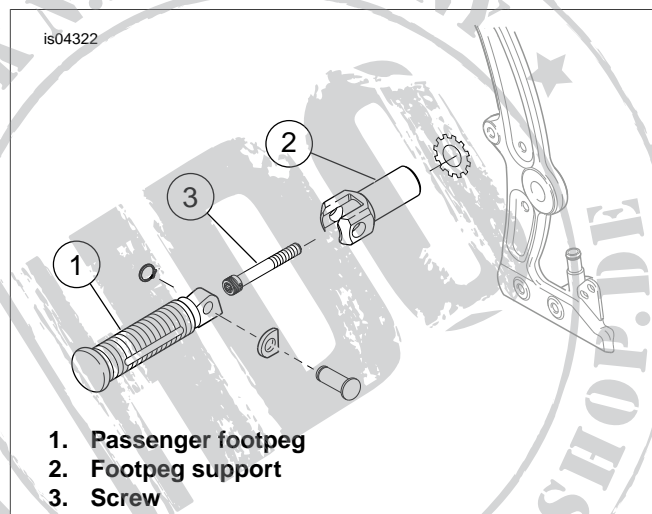

Figure 1. Passenger Footpeg Components
1. See Figure 1. Remove existing passenger footpegs and mounting hardware.